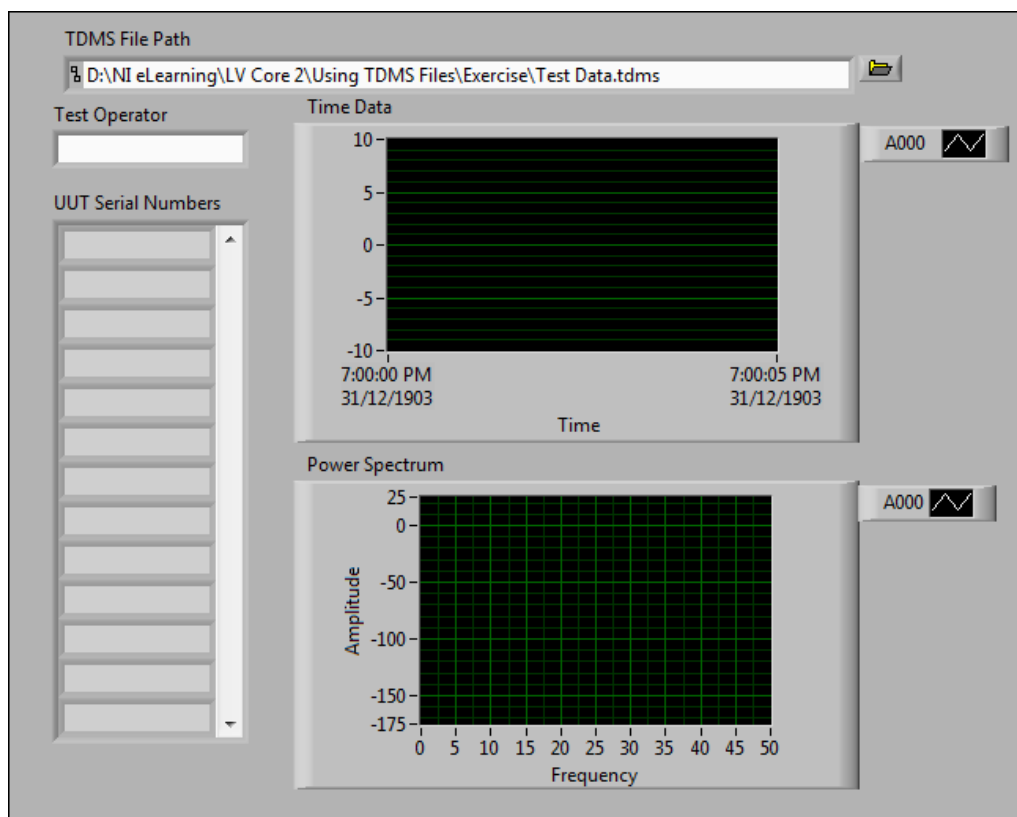

Figure 1. TDMS Logger Front Panel
1. Open TDMS Logger.vi in the <Exercise> directory. This VI is pre-built for you as shown in Figure 1.